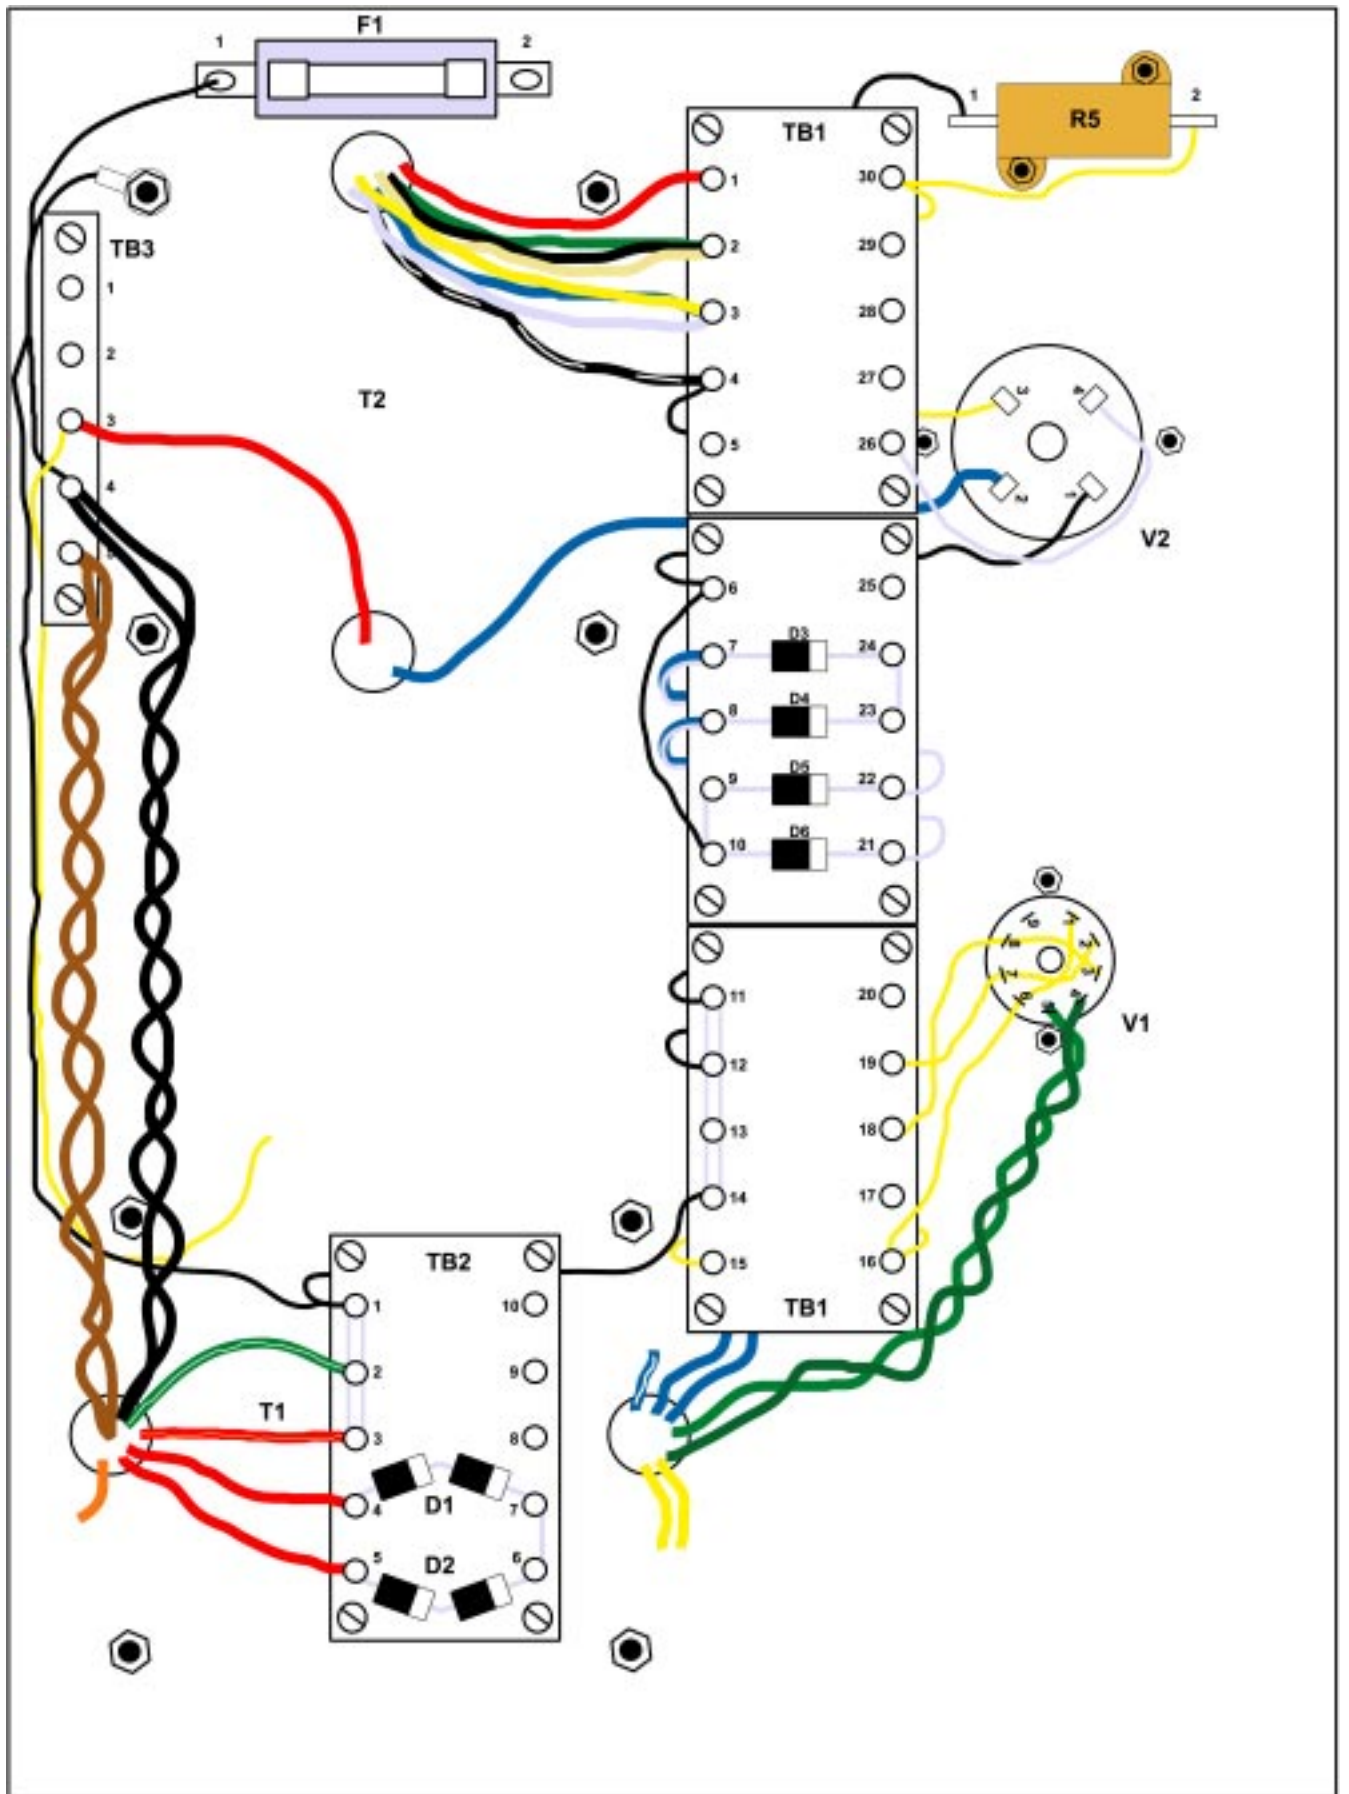

Figure 4
6) Locate the bag marked "D3,D4,D5,D6" and mount the diodes to TB1 as shown in figure 4. Note the polarity of the diodes when installing them. Install one diode between TB1-7 and TB1-24 leaving one lead long enough to wrap around and connect to TB1-23. Install the second diode between TB1-8 and TB1-23. Install the third diode between TB1-9 and TB1-22 leaving one lead long enough to wrap around and connect to TB1-10. Install the fourth diode between TB1-10 and TB1-21.
Locate the bag marked "D1, D2" and mount these diodes as shown in figure 4. Note: these diodes have polarity and are identified by the white band on one end. Diode D1 is soldered between TB2-4 and TB2-7. Solder diode D2 between TB2-5 and TB2-6 but leave enough lead wire on the diode to wrap around terminal TB2-6 and solder to TB2-7 as shown in figure 4.
Cut a piece of the black hookup wire to length and solder one end to TB2-1 and the other end to TB1-14. Route the wire under TB2 as shown in figure 4.
Locate the bag marked "H/W1" and remove one ring terminal, a star washer and a brass nut. Cut a piece of the black wire to a length of approximately 10 inches. Solder one end of this wire to TB2-1 as shown in figure 4. Trim the wire to length and solder the ring terminal to the other end of this wire. You will now attach this ring to the transformer bolt as shown in figure 4. First remove the nut that secures the transformer mounting bolt. Install the star washer onto the bolt and then re-install the nut and tighten securely so that the star washer digs into the bottom of the aluminum plate. Now place the ring terminal onto the bolt and secure with the brass nut. Just finger tighten this nut for the time being. The ring terminal should now be sandwiched between the two brass nuts.
Cut a piece of the black hookup wire to length and solder one end to TB3-4 and the other end to F1-1 as shown in figure 4.
Cut a piece of the black hookup wire to length and solder one end to TB1-4 and the other end to TB1-12. Route the wire under terminal board TB1 as shown in figure 4.
Cut a piece of the black hookup wire to length and solder one end to R5-1 and the other end to TB1-11. Route the wire under terminal board TB1 as shown in figure 4.
Cut a piece of the black hookup wire to length and solder one end to TB1-6 and the other end to TB1-10. Route the wire as shown in figure 4.
Cut a piece of the black hookup wire to length and solder one end to V2-1 and the other end to TB1-6. Route the wire under terminal board TB1 as shown in figure 4.